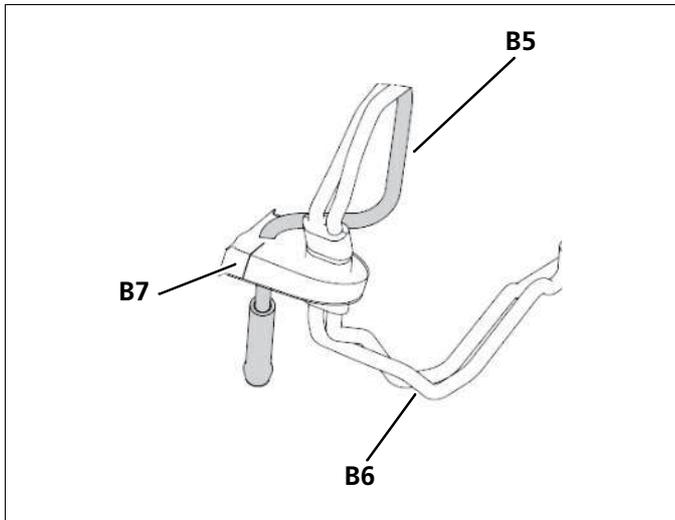

Fig. 33 Glow plug cable, bush and fuel pipe
- Lay the glow plug cable (B6) with a slight bend, as shown in Fig. 33, and push the bush (B7) onto the fuel pipe (B5).